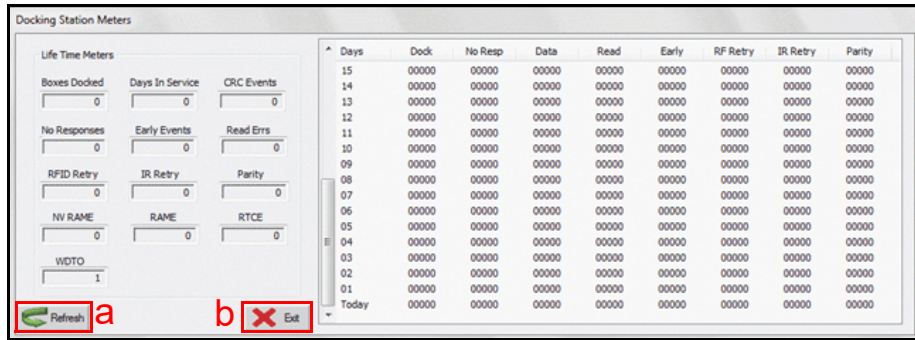

Figure 13 Docking Station Meters
The Docking Station Meters screen (Figure 13) appears.
- Click the Refresh  screen button (Figure 13 a) to load and display current Meters data (see Table 4).
- After viewing data, click the Exit  screen button (Figure 13 b) to return to the DSA Main Screen.